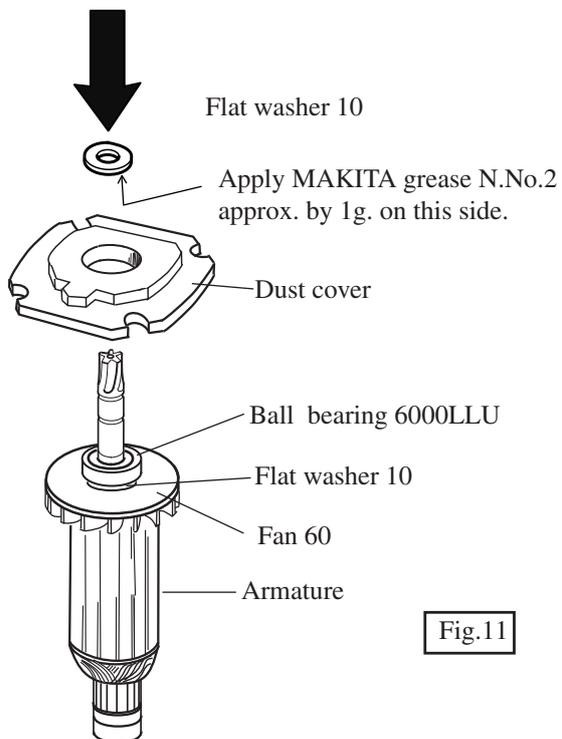

Fig.11
- (2) Press dust cover. And then, press flat washer 10 as illustrated in Fig.11. Apply MAKITA grease N No.2 in advance approx. by 1g. on the flat washer's surface which contacts with ball bearing 6000LLU.